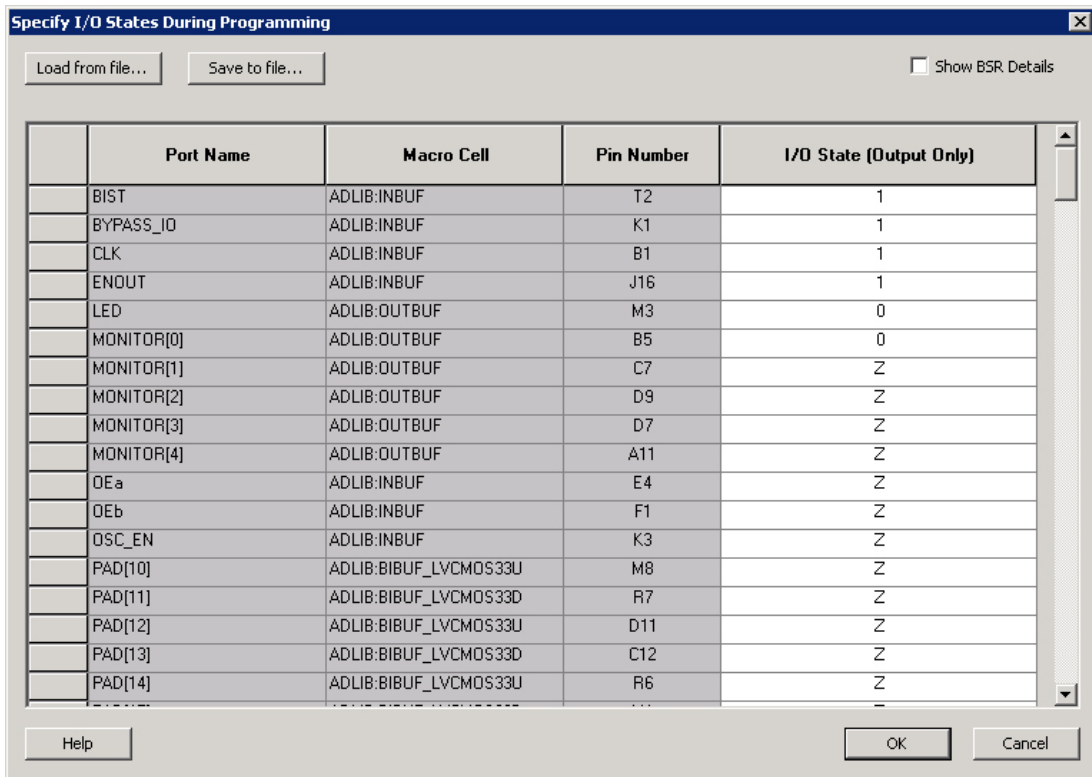

Figure 1-4 • I/O States During Programming Window
4. Sort the pins as desired by clicking any of the column headers to sort the entries by that header. Select the I/Os you wish to modify (Figure 1-4 on page 1-7).